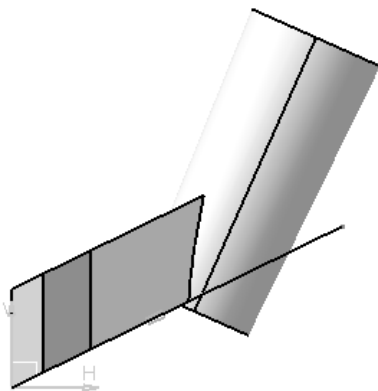

Figure 6-82 Sketch for the pocket feature
- Create the third feature of the model, which is a cut feature. It will be used to remove the unwanted portion of the second feature, refer to Figures 6-82 and 6-83.
1. Select the zx plane and invoke the **Sketcher** workbench. Draw the open sketch at an angle of 26-degrees, as shown in Figure 6-82, and exit the **Sketcher** workbench.